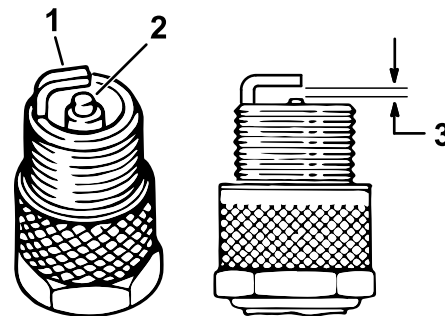

Figure 32
4. Check the condition of the side electrode, center electrode, and center electrode insulator to ensure that there is no damage (Figure 32).
5. Set the air gap between the center and side of the electrodes at or **0.76 mm (0.03 inch)** as shown in Figure 32.